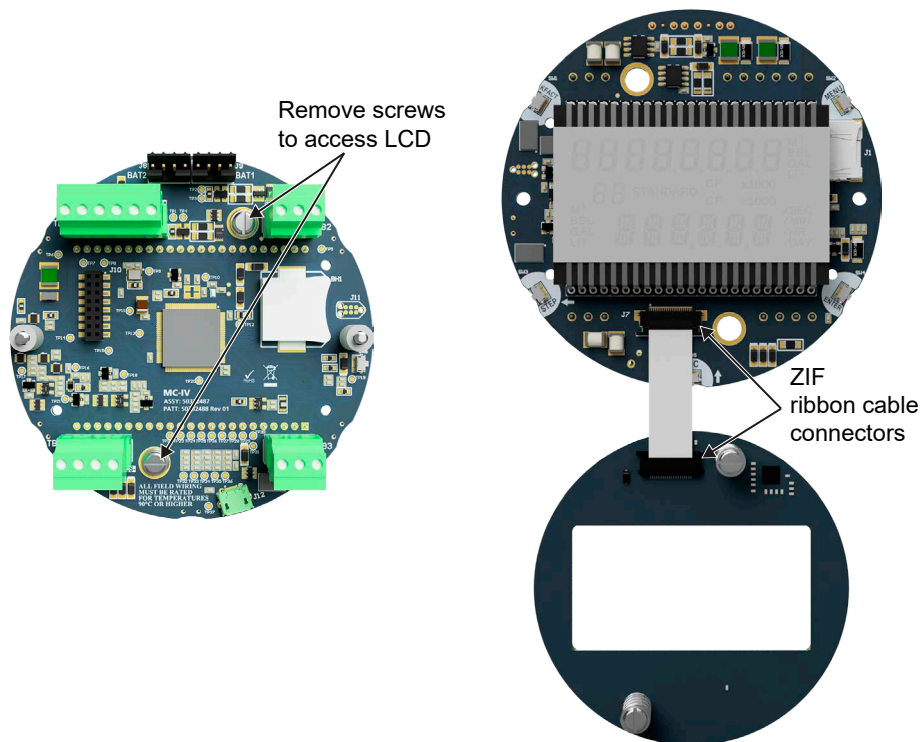

Figure 4.6—Disassembly of circuit board assembly
- Remove the two #4-40 × 5/16" screws fastening the circuit assembly to the display assembly (Figure 4.6).